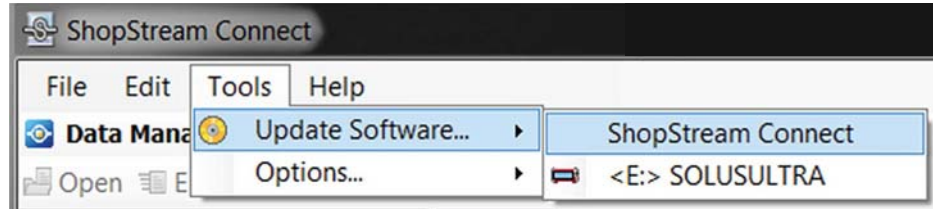

Figure 9-1
1. Select **Tools > Update Software > ShopStream Connect** from the Menu bar (Figure 9-1).